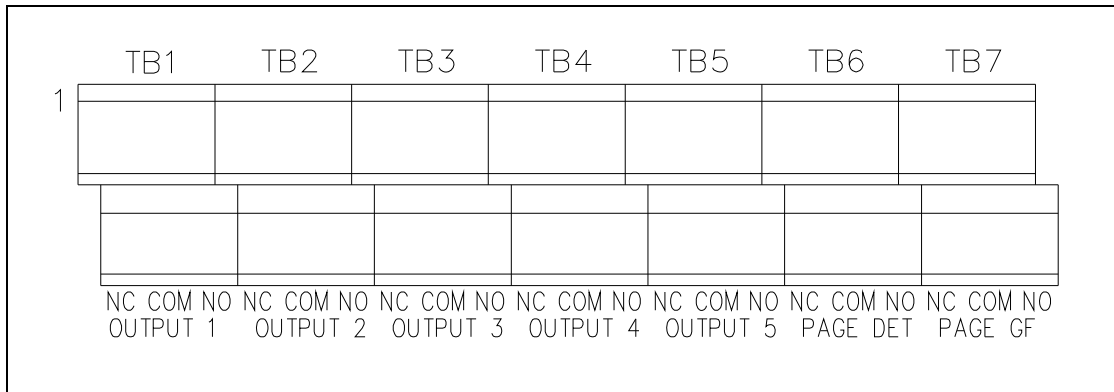

Figure 15. Relay Output Terminals
Seven relay outputs are provided. Each relay output provides two contact sets and each contact set consists of normally open (NO), common (C) and normally closed (NC) contacts. Outputs 1–5 are activated by inputs 1–5 on the companion LE300-IP. Output 6 is activated when page line audio is detected and output 7 is activated when a page line ground fault is detected. Terminals are provided for each relay contact and are labeled with the relay contact description next to the terminal block TB1-7 as shown in Figure 15 below.